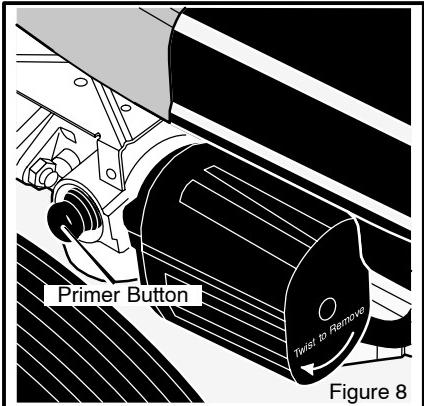

Figure 8
1. Push the **primer button**. See Figure 8 for location. For the number of times to push the **primer button**, see the primer button decal located on the engine or follow the directions in the Engine Manual. Wait approximately two seconds between each push.